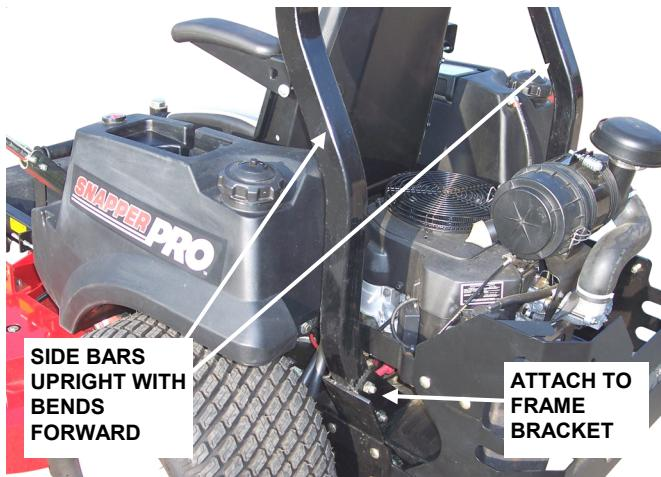

FIGURE 1
- Install side bars into frame brackets behind fuel tanks, making sure bars aim up and bend toward front of machine. See Figure 1. Secure each bar to its corresponding bracket with two 1/2-13 x 3-1/4" hex bolts and lock nuts. Do not tighten yet.